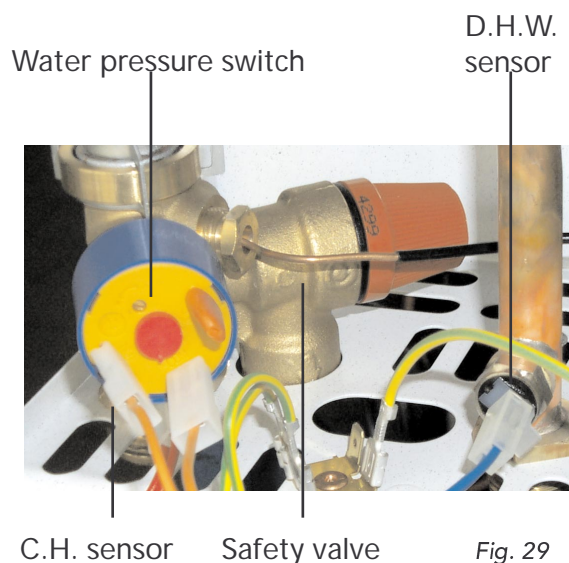

Fig. 29
7.06 D.H.W. temperature sensor or Central Heating Temperature Sensor (fig. 29)
- Identify the sensor from figure 29
7.07 Water Pressure Switch (fig. 29)
- Identify the switch from figure 29
7.08 Safety Valve (fig. 29)
- Identify valve from fig. 29